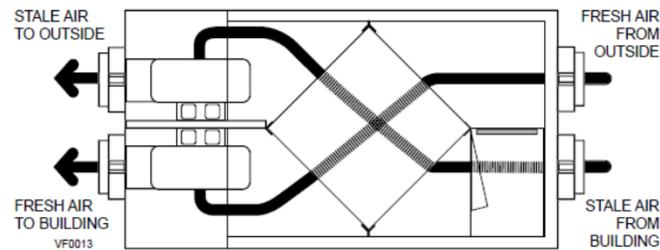

Figure 1 – Typical Set Up of Air to Air Heat Exchanger
- The problem is that a large amount of the supply air from the air to air unit never reaches the house and is just returned to the outdoors with limited fresh air being provided to the house. See Figures 1 and 2.